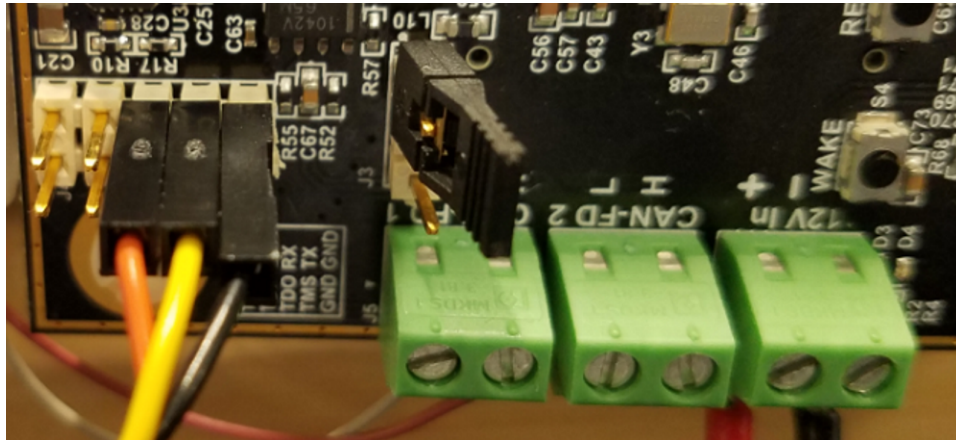

Figure 11. FTDI Cable Connection and J3 Setting
- Move or install the jumper on J3, as Figure 11 shows. This action puts the AWR16 device into "flash" mode. Connect the black (GND), yellow (RX), and orange (TX) wires of the FTDI cable to J4.
As the previous Figure 11 shows, the J3 jumper is used to configure the device into FLASH programming mode. Two additional resistor dividers are used to configure the AWR1642 device at start-up. These SOP configuration options are shown at the bottom of sheet 2 of the schematic (available for download in Schematics). These lines are sensed only during boot up of the AWR device. Table 3 provides a description of the SOP modes. A "0" represents pulling the pin low and a "1" represents pulling the pin high.